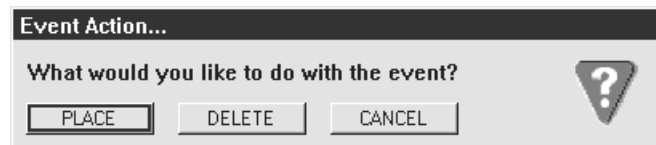

Figure 37: Event Action
- 4 Press the rotary control knob to select the Event Mark and select 1 of the following Event Actions (see Figure 37, page 66):